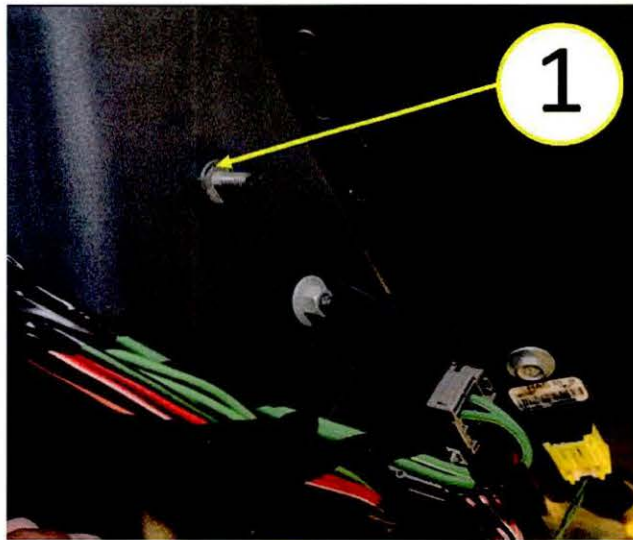

Fig. 7 Ground Connection Stud
8. Inspect the flat surface of the body grounding stud for paint and foreign material that may prevent a good electrical ground connection. Use emery cloth to clean the flat surface of the grounding stud to ensure good ground terminal contact (Fig. 7).